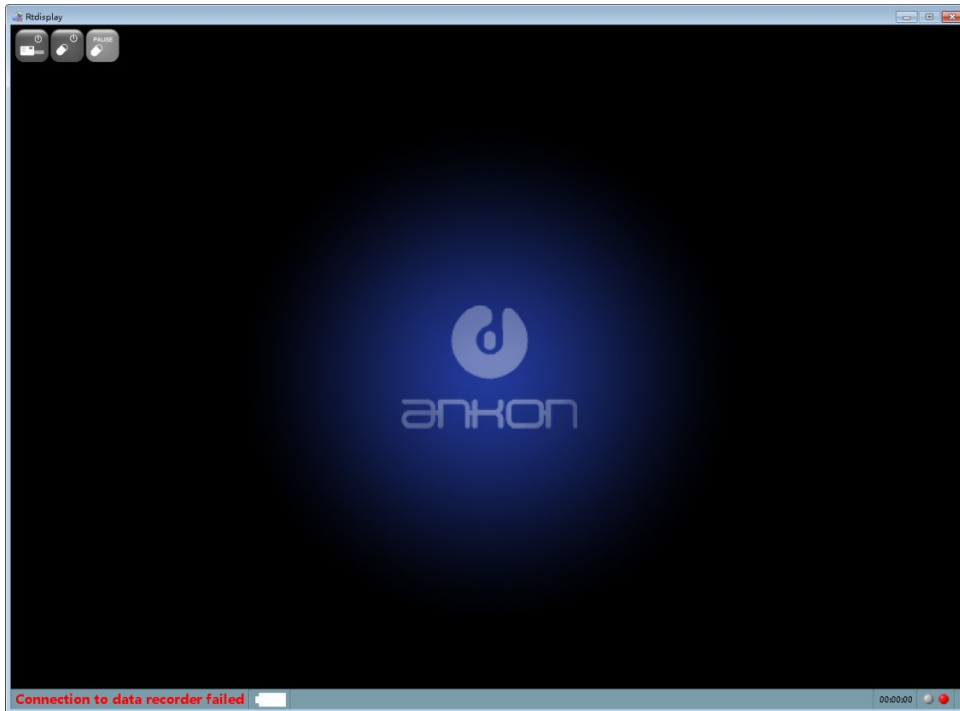

Figure 4-3: Rtdisplay Interface
1. In the main software interface, select “Tool”→“Rtdisplay” in the menu to launch the real-time display interface as shown in Figure 4-3.